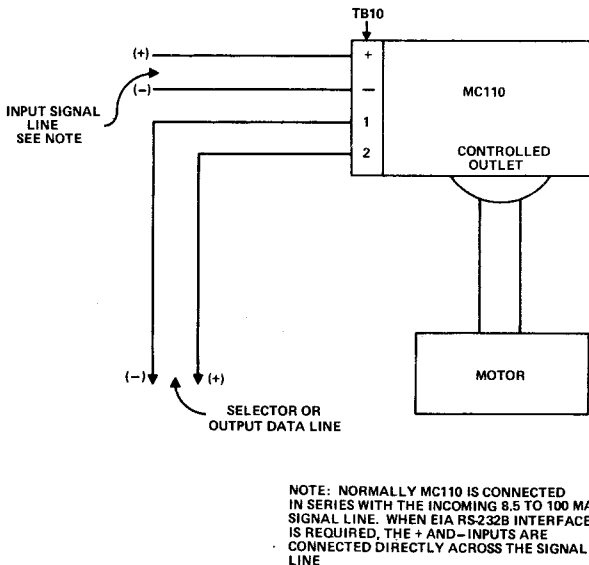

FIGURE 1
4. INSTALLATION INSTRUCTIONS (See Figure 1)